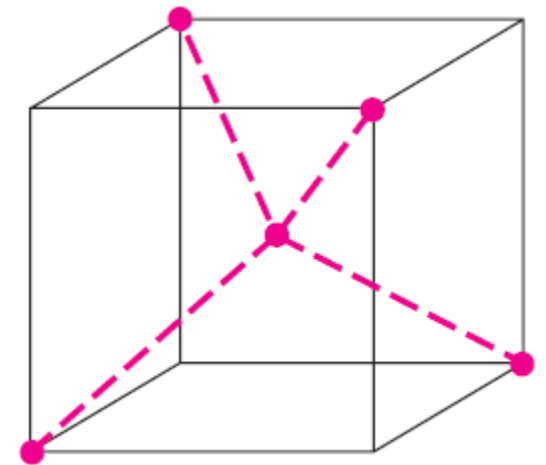

Figure 1.1(b)
- Figure 1.1(c) is a **two-dimensional representation** of the lattice.